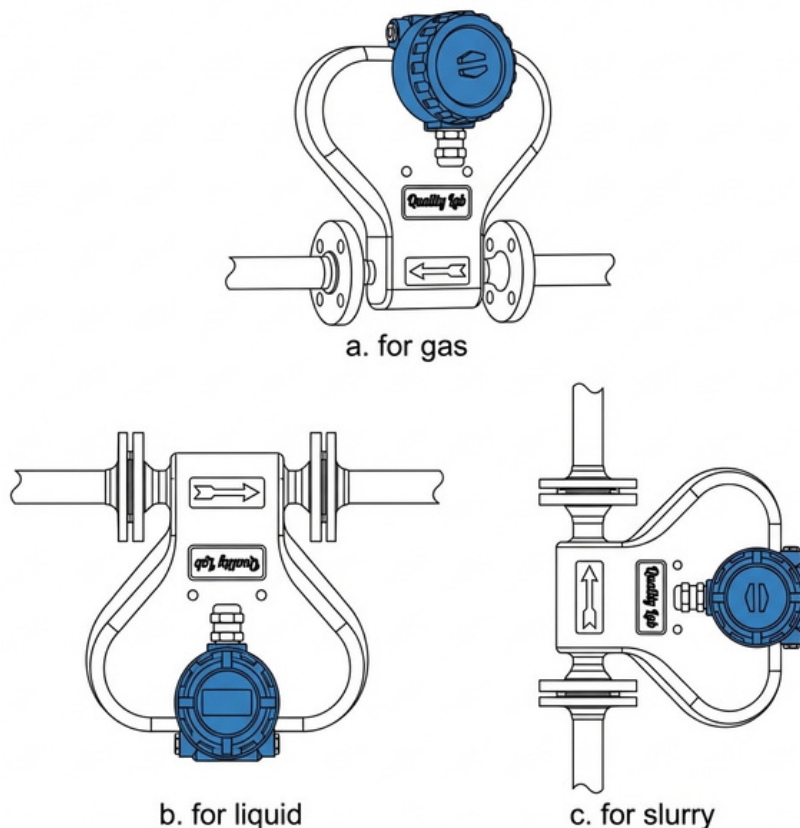

Figure 5
- Install the meter so that the tube remains completely filled during operation. For liquids and slurries, a low point in the line is preferred; for gases, a high point is often better. Figure 5 shows the preferred orientations for gas, liquid and slurry.